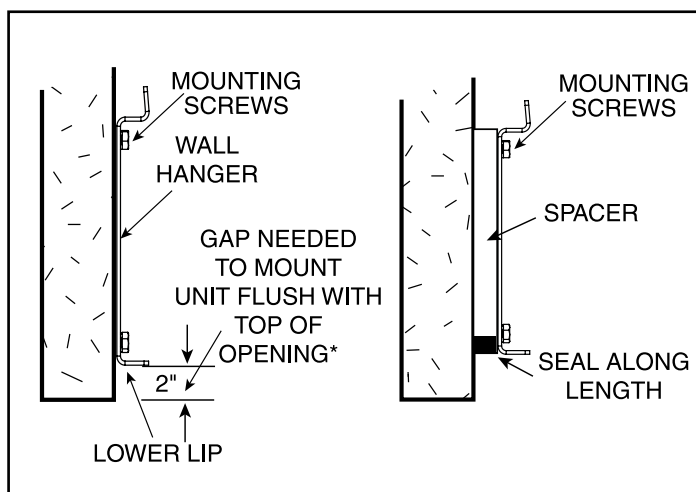

Figure 3 - Wall Mounting Location
- B. For optimum performance, the bottom of the air curtain (discharge nozzle) should be no more than 1" above the top of the door opening with the air curtain(s) mounted flush to the wall. If the air curtain must be mounted higher, it must be spaced out from the wall 3/8" for every inch the air curtain is above the door opening. **See Figure 3.** For optimum protection, any void between the air curtain and the wall should be sealed along the full length of the air curtain.